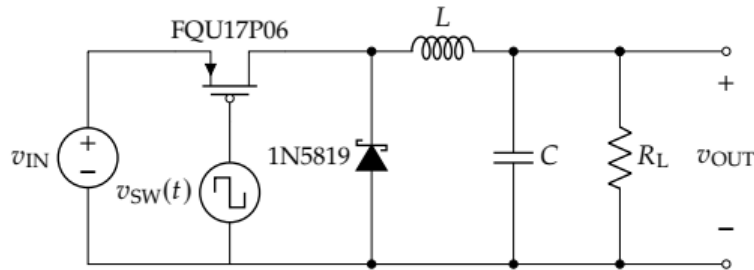

Figure 10.9: A buck converter circuit.
2. Construct the circuit in figure 10.9 with the above values.